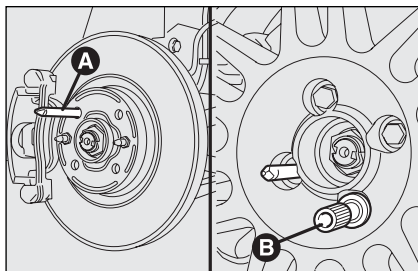

fig. 10
- Tighten the pin **A**-fig. 10 in one of the fastening bolt holes on the wheel hub;